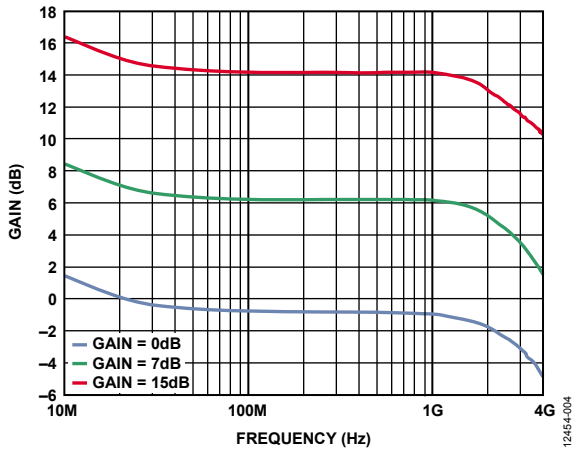
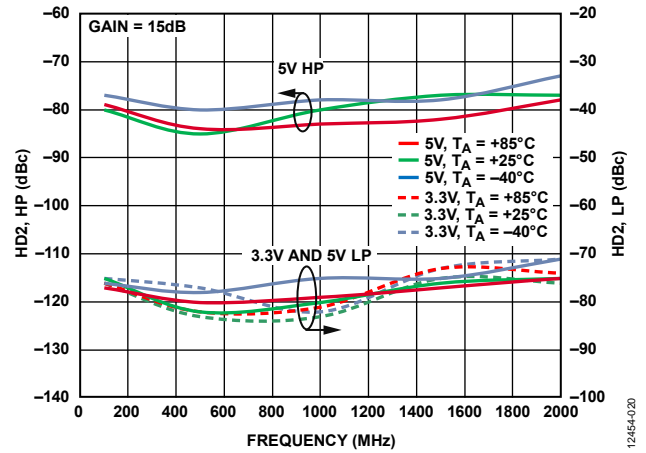
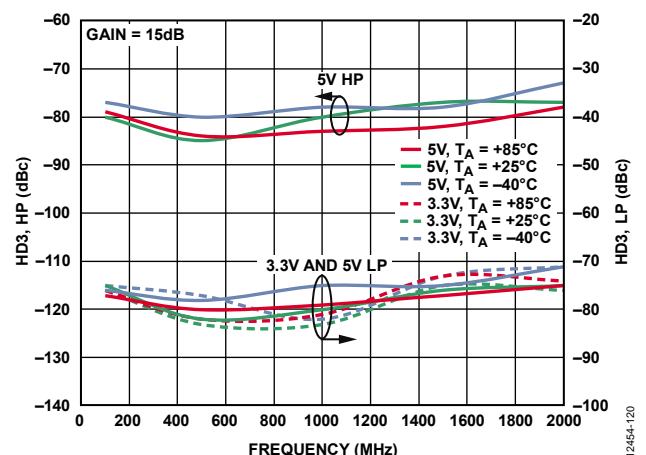
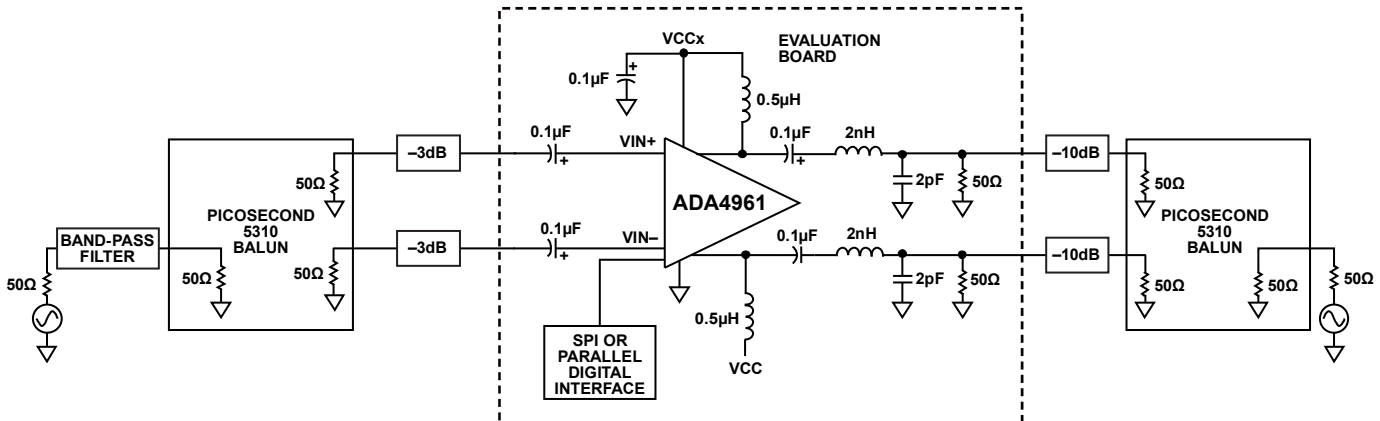

Figure 4. Gain vs. Frequency at 15 dB, 7 dB, and 0 dB Gain Settings, 5.0V
Figure 20. HD2 vs. Frequency at Three Temperatures, +5.0 V, +3.3 V, with Low-Pass Filter
Figure 21. HD3 vs. Frequency at Three Temperatures, 5.0 V, 3.3 V, with Low-Pass Filter
Figure 37. Test Circuit for Single Tone Distortion
Figure 37 is used in part of the ac characterization of the ADA4961. The picosecond 5310 balun provides the differential input signal and the  $100\ \Omega$  differential match to the device. The 3 dB pads make the picosecond balun  $50\ \Omega$  impedance less reactive on one side, which balances the differential phase accuracy. On the outputs, the 2 nH and 2 pF create a two-pole low-pass filter, along with the two  $50\ \Omega$  resistors in parallel with the pads and output picosecond balun. This filter creates the  $50\ \Omega$  differential load.
The output pads make the load more balanced. This is essential for good HD2 performance. This filter technique also creates a lighter load (slight peaking) for the device at higher frequencies, which improves the IMD3 performance. Though the filter bandwidth (BW) computes to 3.3 GHz, the parasitic C (not shown in Figure 37) across the 2 nH filter inductors reduces the 3 dB BW to about 2 GHz (see Figure 4). The filter, beyond reducing integrated output noise, also reduces the higher frequency second and third harmonics above 1 GHz and 700 MHz, respectively (see Figure 20 and Figure 21).